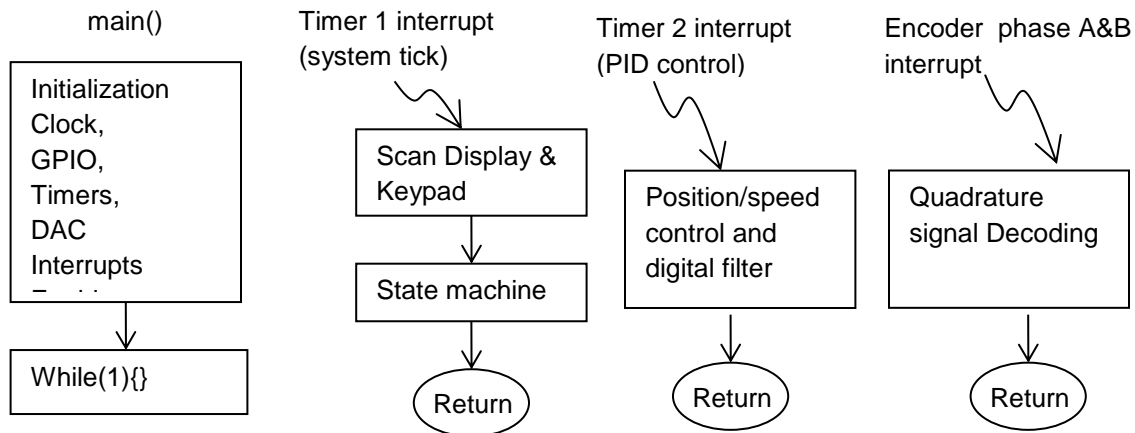

Figure 5-1 Program structure
Your control program should be structured as shown in Figure 5-1. The main() consists of initialization of all related peripherals and a dummy infinite loop. There should be two timer generated interrupts. One for the 7-segment display, keypad interface, and the state machine. This timer interrupt should have lowest priority and should be set to about 60Hz. The other timer interrupt is for implementing the speed and/or position control and a low-pass digital filter. This timer interrupt should have a medium priority level and should be set to 200Hz. Encoder quadrature signal should be decoded by EIC as in Lab 4. This interrupt should have highest priority.
- (2) The motor speed (in RPM) should displayed on the 7-segment display at all time. The 1Hz bandwidth digital filter implemented in Lab 4 should be included so the displayed value is steady.
- (3) The speed must be controlled by a **PI speed control loop**. Note that the raw calculated speed should be used in the PI control loop, NOT the filtered one.
- (4) The program must be based on Interrupt and state-machine using the program structure shown in Figure 5-1.
- (5) The state machine should have 4 states: Idle, Accel, Decel, and Spd_ctrl.
At any instant of time, the control program operates in one of the 4 states. The foreground task is executed at all times. The foreground tasks include: Keypad scanning and 7-segment display, keypad input interpretation (setting Goal state, in this case) and the state machine. These foreground tasks are executed in the first timer interrupt handler routine. Note that, there is no explicit communication between any of the blocks in Figure 5-1. All communication is done through the state variable implicitly. For example, The 'speed command' variable (used in the PI control loop) is incremented when the state variable is #2. If the state variable is #4, the speed command is decremented. The speed command should be kept at 1500rpm in state #3.